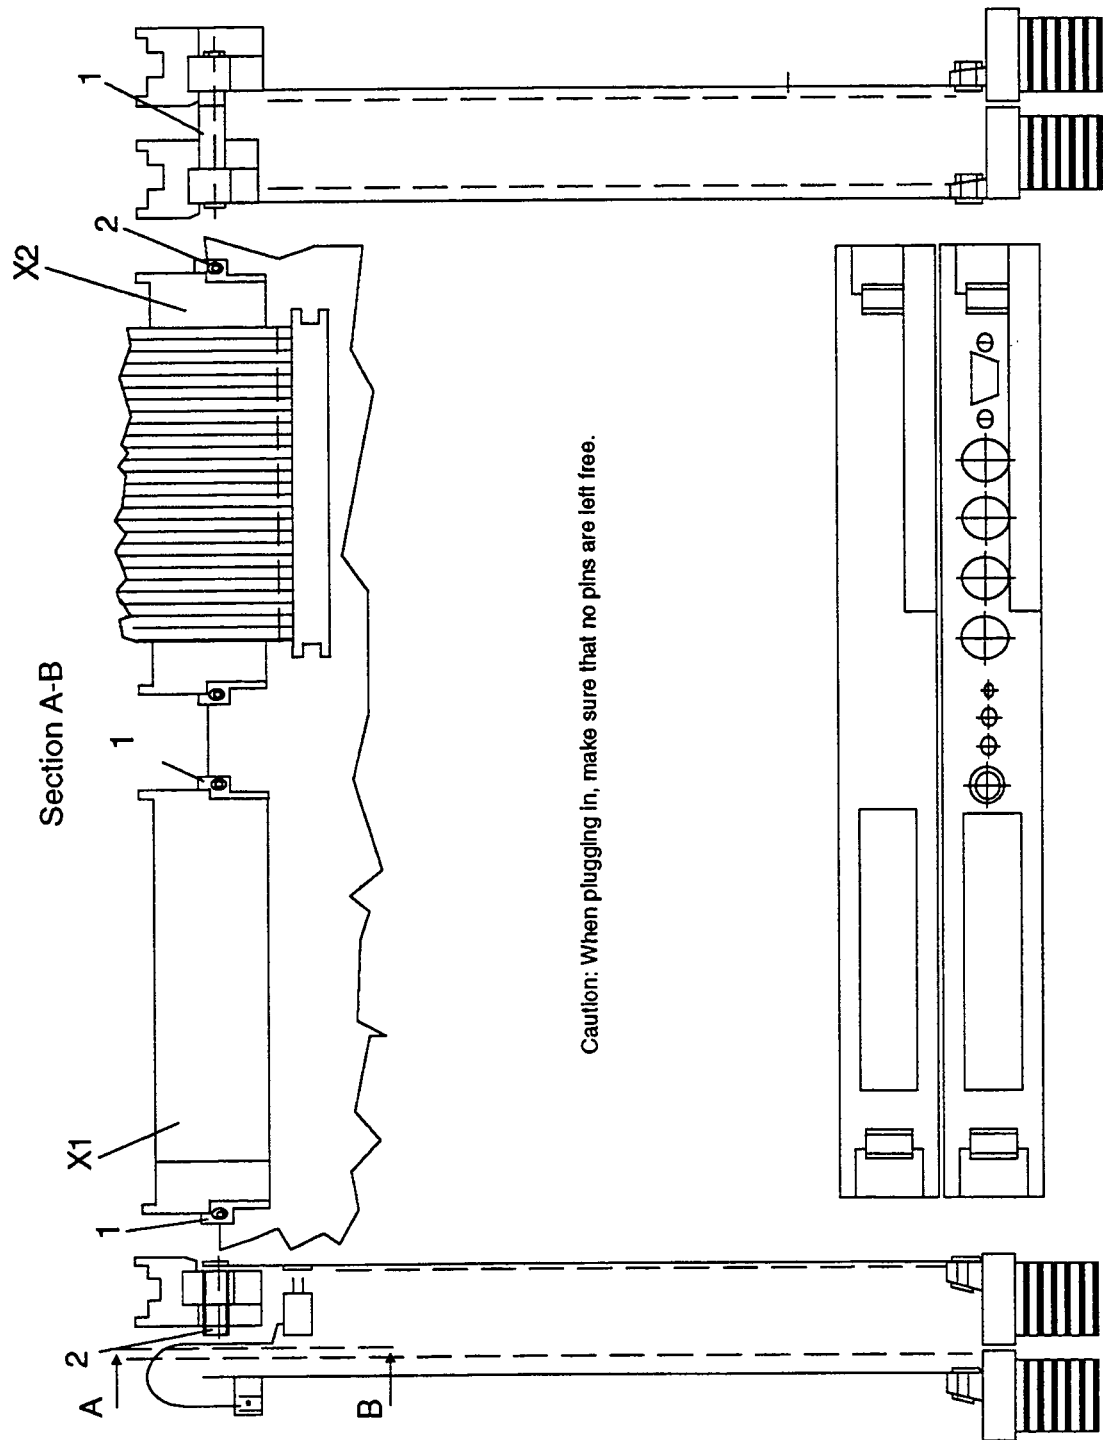

Figure 4-4: Assembly Directions
4. With the screws that you loosened in step 4, fasten the two enclosed threaded spacer pins No. 1 on backplane connector X1 and the spacer pin No. 2 on backplane connector X2 (see Figure 4.4). The spacer pins must be attached on the component side of the board as shown in Figure 4-4.
5. Plug the 64-pin ribbon connector of the expansion board into the 64-pin plug connector of the basic board as shown in Figure 4-4. Check the plug connection to be sure that every pin is inserted correctly.
6. Place the two boards together, as shown in Figure 4-4. Plug the expansion board spacer pins into the basic board spacer pin holes.